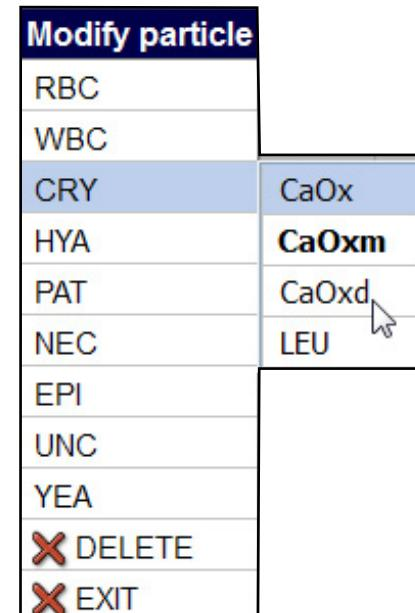

Figure 15: The default particle class modification dialog box
- 1 Move the cursor above the tag you wish to modify. Right-click the tag to display the **Modify particle** dialog box (see Figure 15).
- 1 Move the cursor above the tag that you want to remove. Right-click on the caption to display the Modify particle dialog box (see Figure 15).